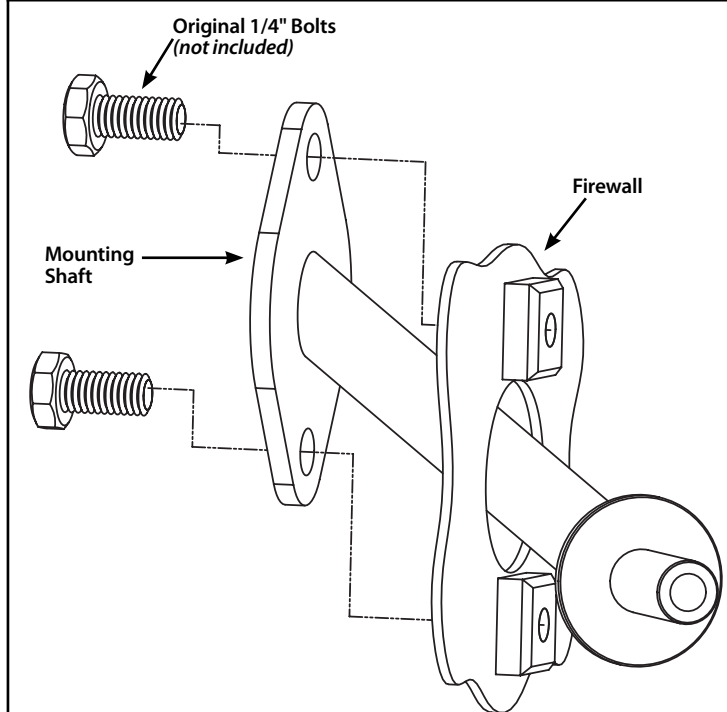

Fig. 3
Step 3: Install the mounting shaft into the firewall from the engine compartment side using the stock hole where the original throttle linkage was mounted. Use the original bolts to attach it to the firewall. Fig. 3